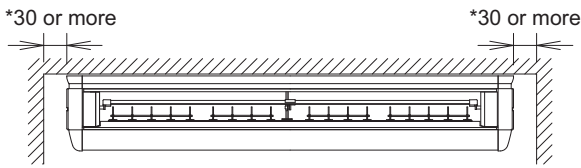

Fig. 1
- (1) Select the installation location that meets the following conditions and get approval of the customer.
- Where a space sufficient for installation and service can be ensured. (Refer to Fig. 1 and Fig. 2)
- Use the graph or table to determine the minimum floor area. See figure 1 on the inside of the front cover.